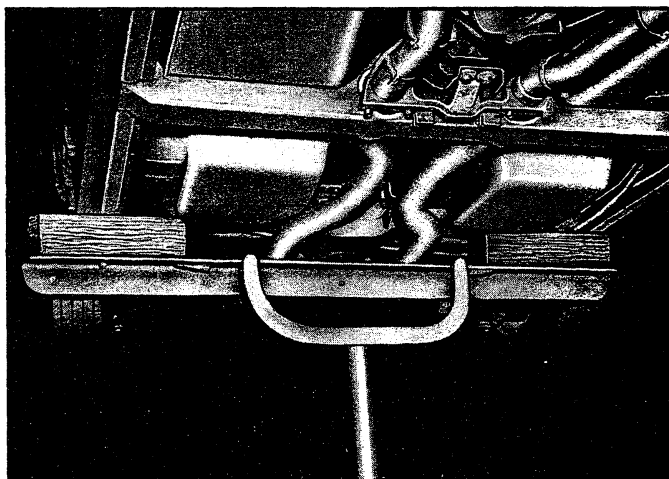

Fig. 31—Frame Lift Adapters—Corvette
- If rear axle work is contemplated, use either suspension adapters or drive-on adapters at the front and frame lift adapters as shown in Figure 31. If frame lift adapters are not available, use jack stands.
NOTE: Wooden blocks, bolted to steel beam shown in Figure 31 are necessary to allow beam to clear exhaust system.